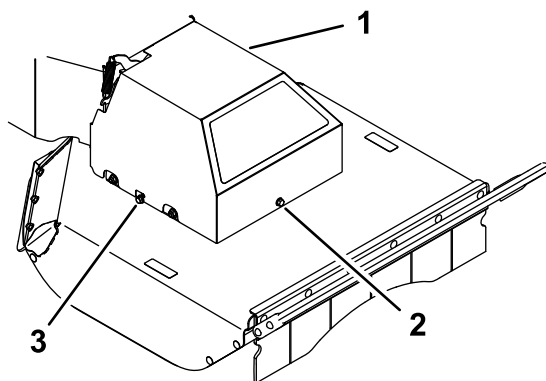

Figure 31
5. Loosen the left and right side bolts a few turns and loosen the front bolt until the cover is loose (Figure 31).
11. Lower the belt cover onto the deck, aligning the slots in the cover with the side bolts. Tighten the front bolt, then tighten both side bolts (Figure 31).